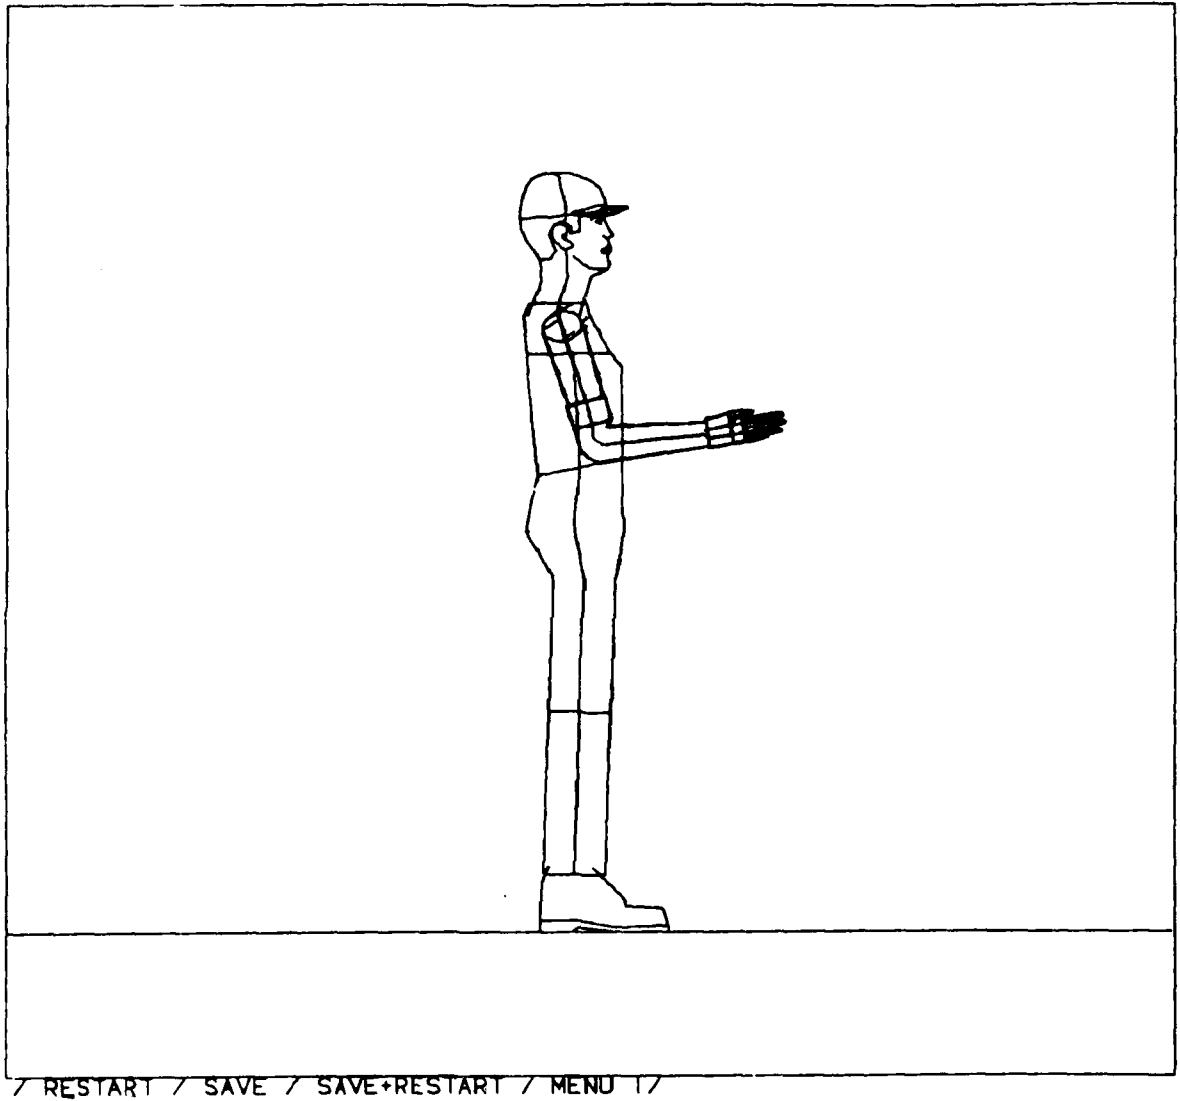

Figure 2.6. Front View of Man-Model.
(2) FRONT	This type of display is the front half of the wire-frame man-model as viewed from the designer's location at the graphics scope. This display contains less clutter than the full wire-frame model, but can still be used for limited visual interference checking. Rotation of the display using CADAM functions reveals a half-shell model. (See Figure 2.6.)